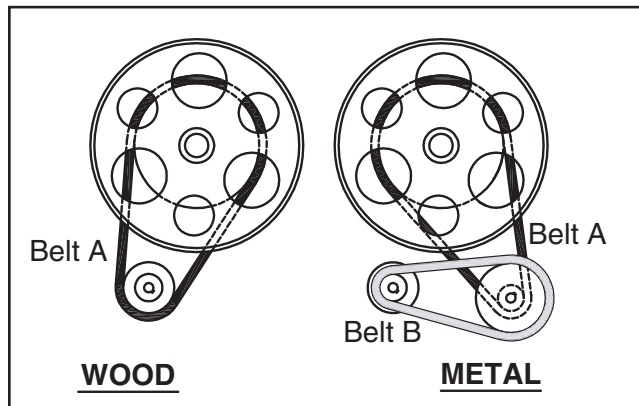

Figure 41. V-belt positions for speed ranges.
4. Refer to **Figure 41** to locate the correct V-belt position for the desired speed range.